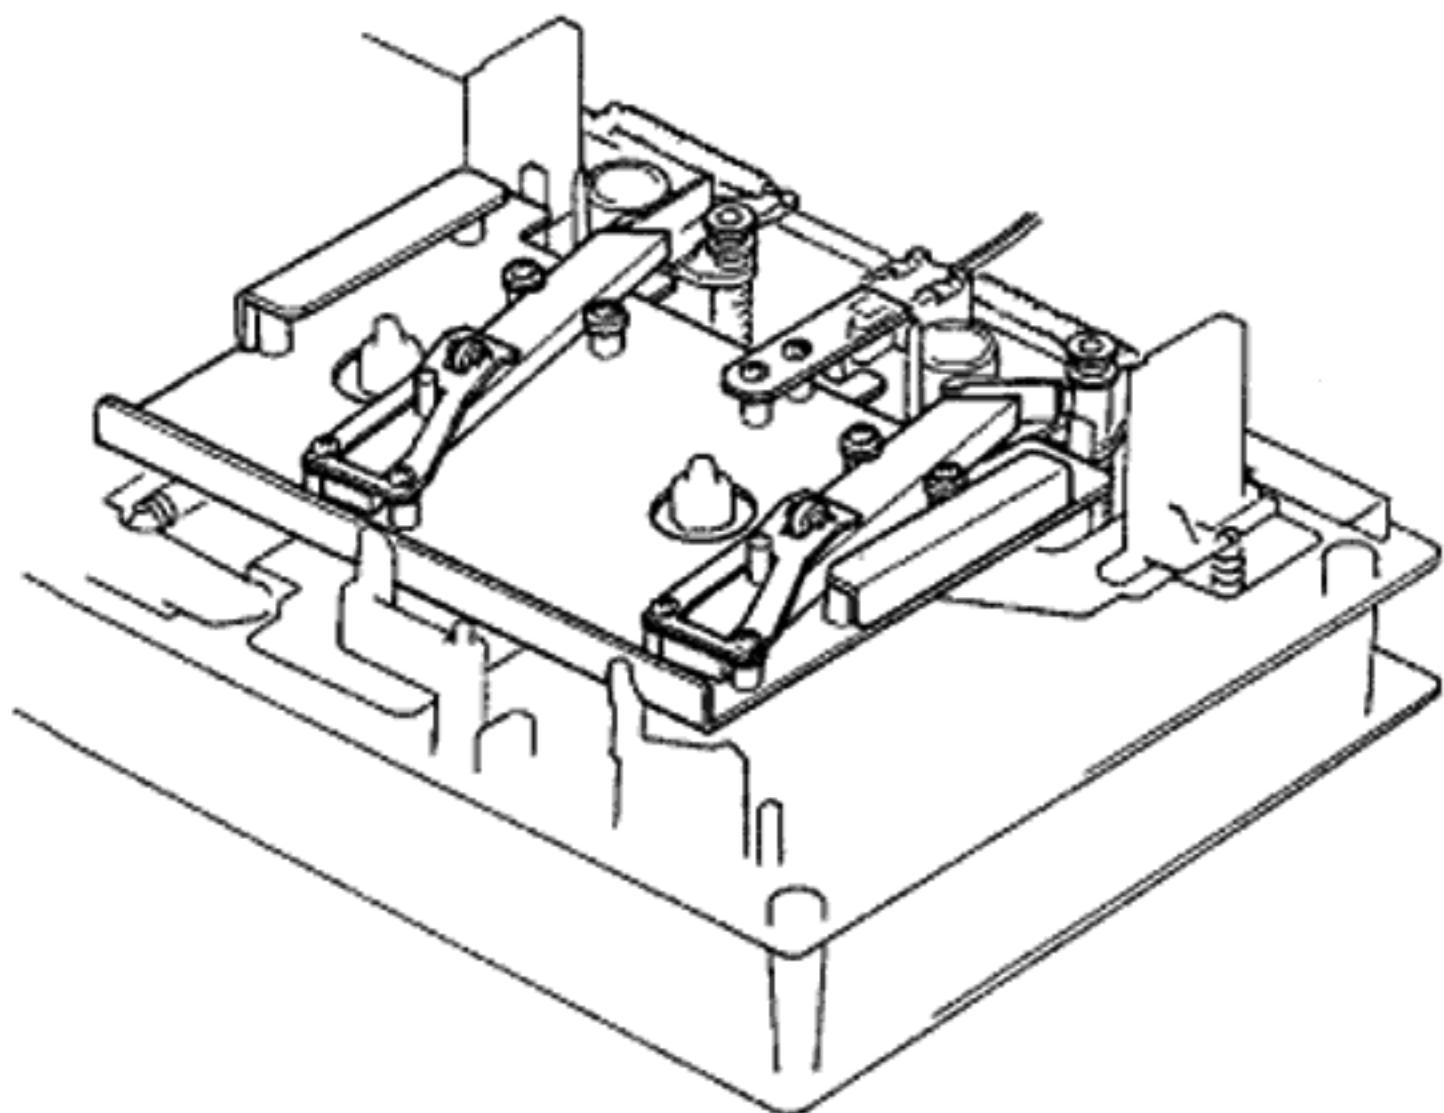

Fig. 4.9
- After completion of the Head Base Stroke Adjustment, check to insure accuracy of the Head Base Stroke Adjustment in Play mode. If the above are inaccurate, items (1) and (2) will have to be repeated till satisfactory results are obtained.
Remove Head Mount Base Ass'y referring to item 2.24. Refer to Figs. 4.9 and 4.10.
(1) Erase Head Stroke Adjustment
(2) Supply Tape Guide Height Check
(3) Take-up Tape Guide Height Check